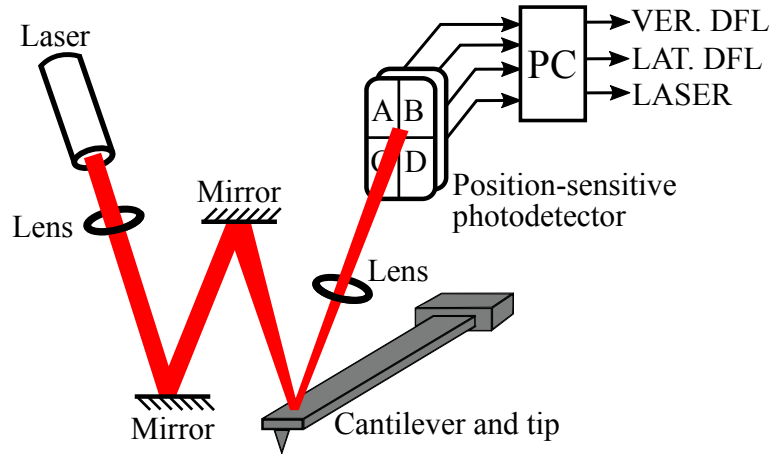

Figure 1: The basic components of an atomic force microscope.
In its most basic form the AFM consists of the cantilever (1), a laser (2), a multi-section photo-diode (3) and a movement system (4). These are shown in figure 1.